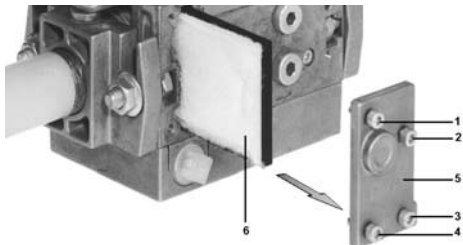

Fig. 36
- 2 Remove screws 1 ÷ 4 using the Allen key n. 3 and remove filter cover 5 in Fig. 36.